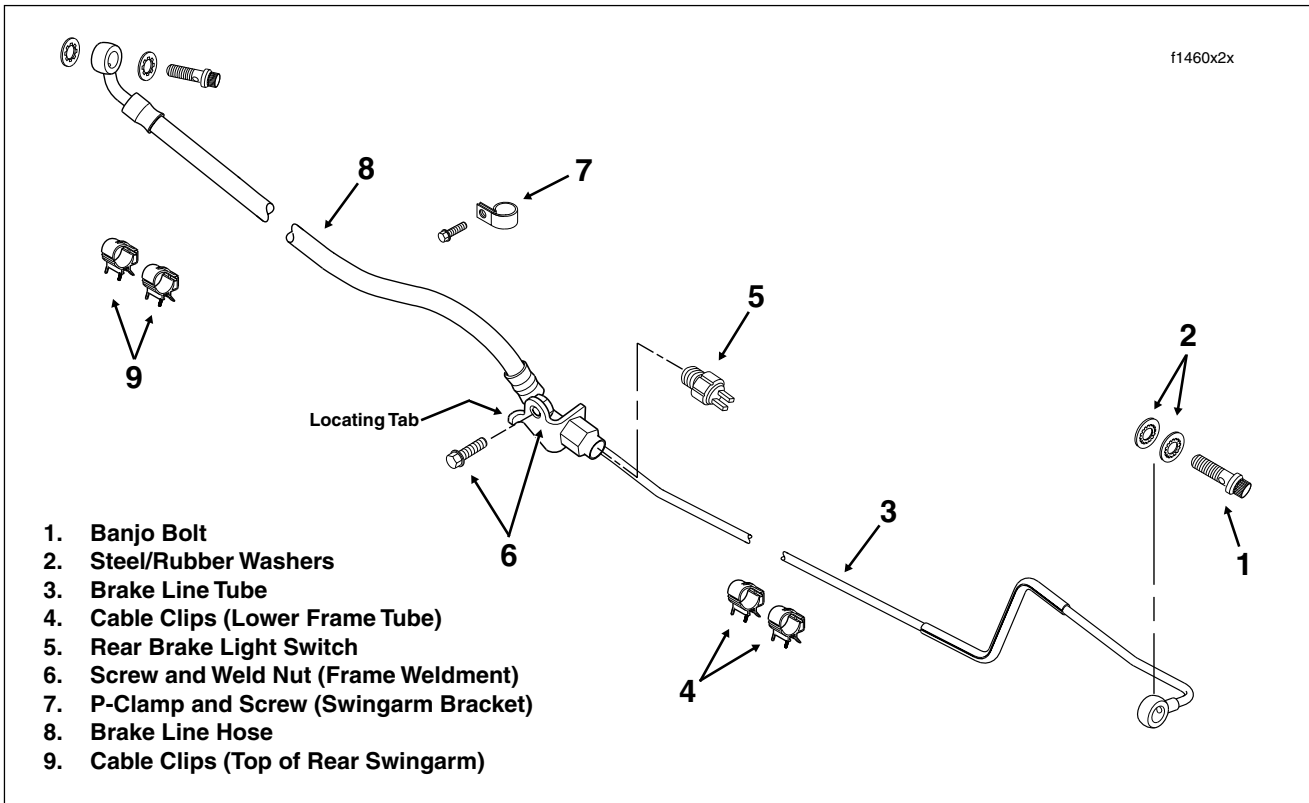

Figure 2-48. Rear Brake Line Assembly
2. Remove banjo bolt and two steel/rubber washers to disconnect brake line front fitting from master cylinder assembly. Discard washers. See Figure 2-48.